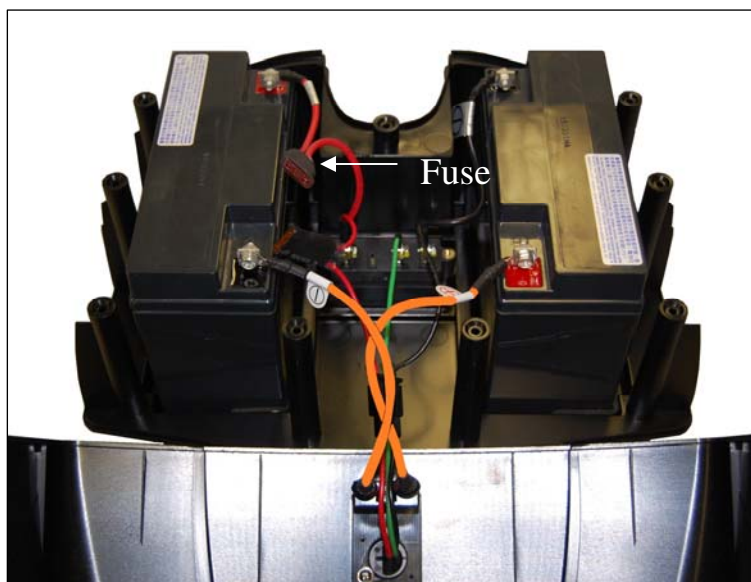

Figure 17. Battery Harness Fuse
- Open? – Replace the 5 amp fuse. **See figure 17.**